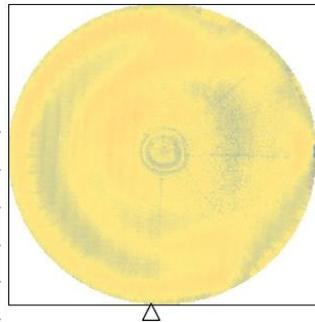

Figure 8: BH distribution map and data
Full dummy wafers reflowed in the EA-enabled furnace were also sent back to corresponding customers for standard quality inspections, such as checking bump shape, bump uniformity, shear strength, failure model, and bump voids. Results confirm that the wafers reflowed under the EA-based process indeed meet all specifications. Figures 8 and 9 represent results of automated optical inspection (AOI), which confirm acceptable bump heights (BH) and bump diameters (BD) across an 8" full wafer. Figure 10 shows that all shear failures are within solder bumps and shear strengths well exceed the criterion ( $> 2 \text{ g/mil}^2$ ). Figure 11 is an x-ray image of a die on a reflowed wafer, which demonstrates that the number of bump voids (green) is quite low and the size of a typical void is 3% of the bump area, which is much below the specified upper limit (8% of the bump area).